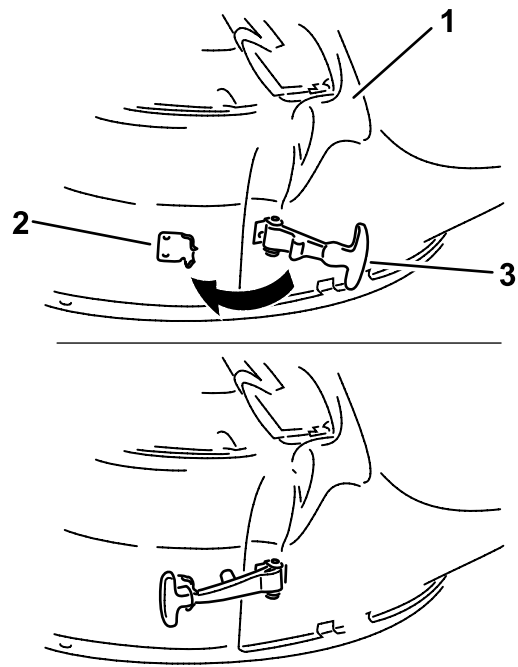

Figure 17
5. Hook the flexible latch on the chute to the retaining clasp welded on the mower deck (Figure 17).